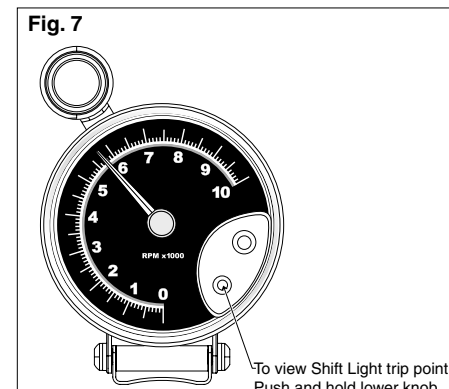

Fig. 7
**NOTE:** You will need both hands free to set the tachometer (see figures 7 and 8).